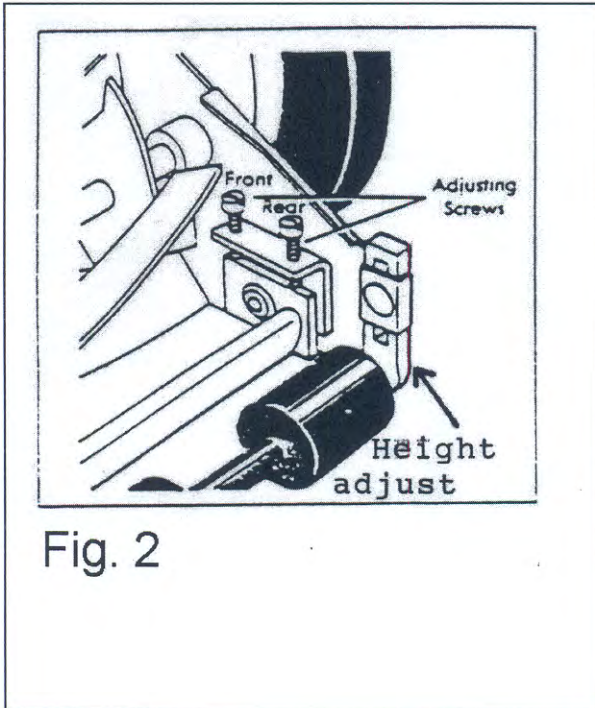

Fig. 2
See figure 2 for attachment
- Refer to Fig. 2
- **Height Adjustment** – Raise or lower roller brackets left and right side to desired height refer to Fig. 2